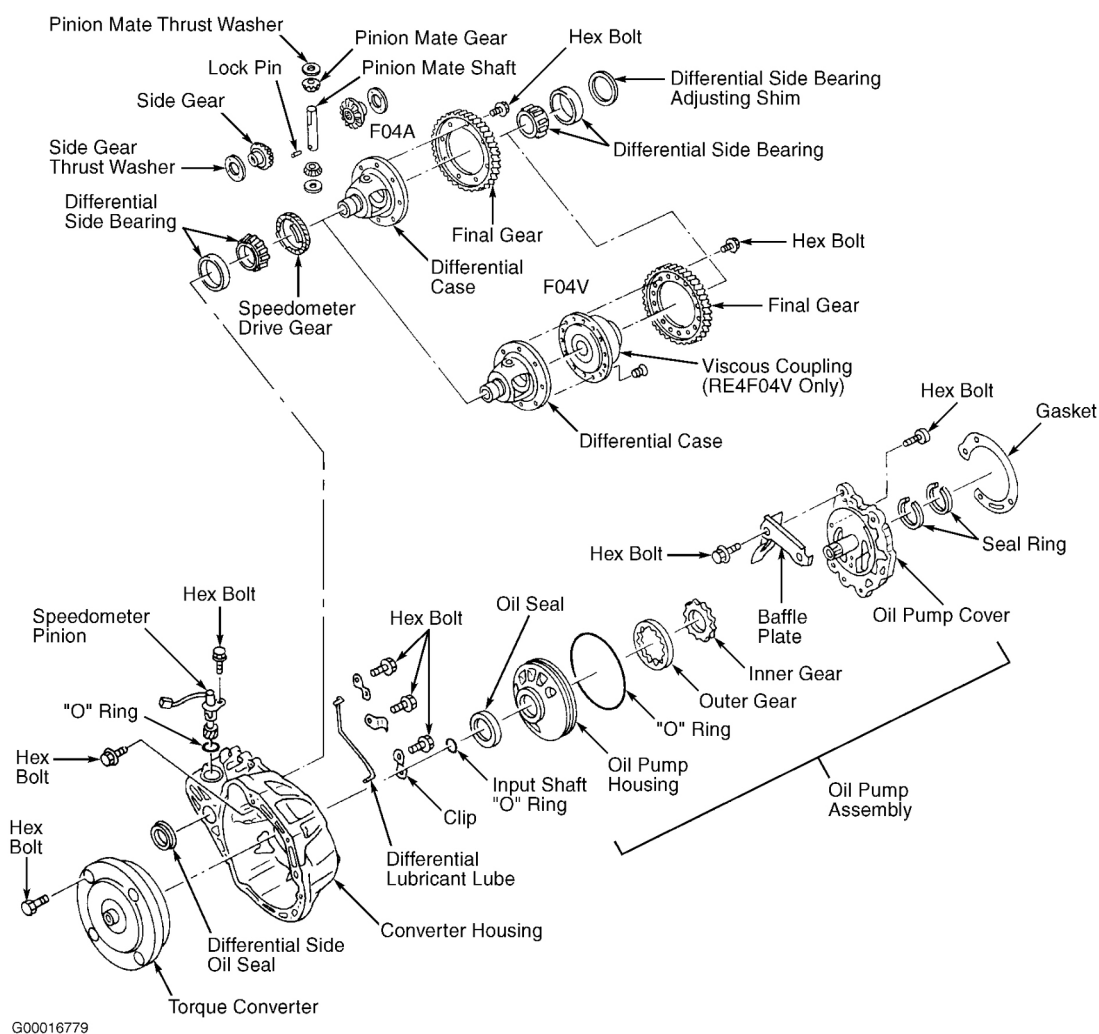

Fig. 11: Exploded View Of Torque Converter Housing & Differential Components
6. Remove oil seal from converter housing, being careful not to damage converter housing. Remove oil tube from converter housing. Remove "O" ring from input shaft. See **Fig. 11**. Remove oil pump assembly bolts and remove oil pump assembly, baffle and gasket from transaxle case. Remove thrust washer and bearing race from oil pump assembly. Loosen anchor end pin lock nut, then back off anchor end pin.